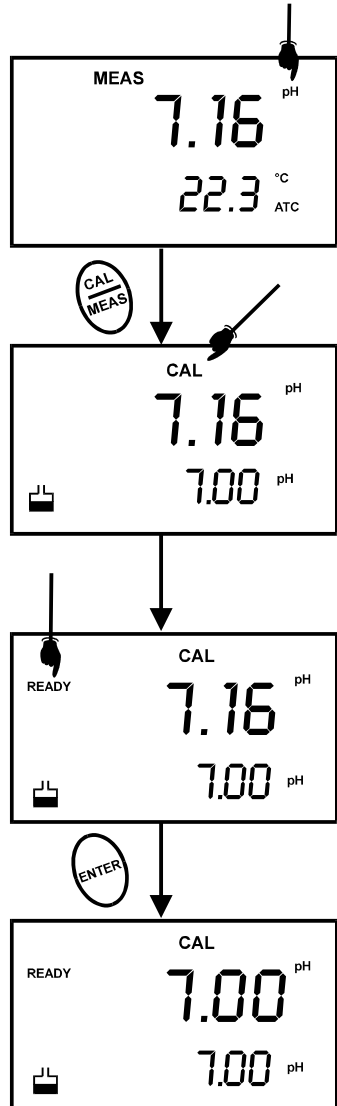

Figure 5 - pH Calibration
5. Wait for the measured pH value to stabilize. See Figure 5.